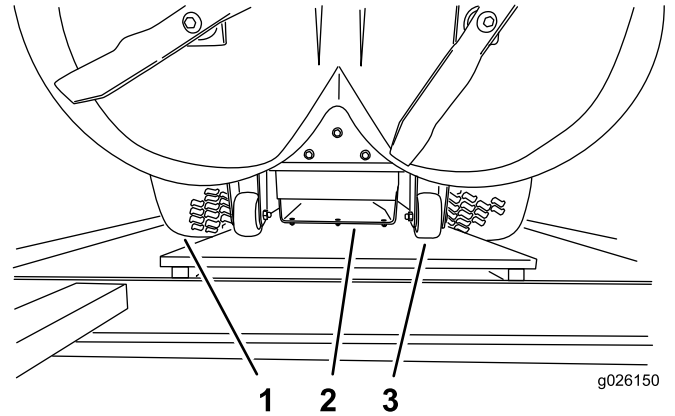

Figure 4
Note: Ensure that the discharge tube does not catch on the crate when driving the machine off the crate (Figure 4).
10. Place a plywood sheet (58.4 cm x 81.3 cm or 23 inches x 32 inches), or similar support, over the opening to provide support for the deck when you drive the machine off the crate (Figure 4).